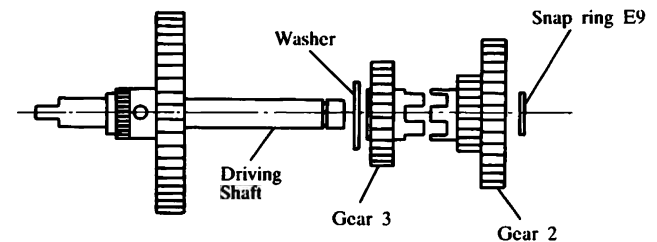

Fig. 18
- (1) Remove the Snap ring (E9), then the Gear 2 and the Gear 3 will come off the Driving shaft. (Refer to Fig. 18)